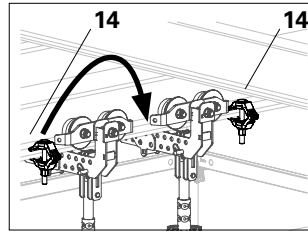
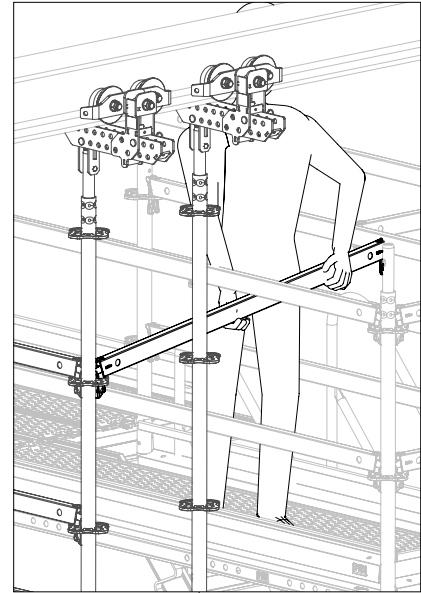

Fig. A6.01
Fig. A6.03
1. Connect the first and second frame with a short ledger (5).
2. Move the main beam clamps (14) one after the other. (Fig. A6.01 + A6.02)
3. Dismantle the short ledger (5) whilst simultaneously firmly holding the first frame.
4. Attach Ledger UH (5) to the rosette of a standard of the first frame. (Fig. A6.03 + A6.04)
6. Install Ledger UH (5).